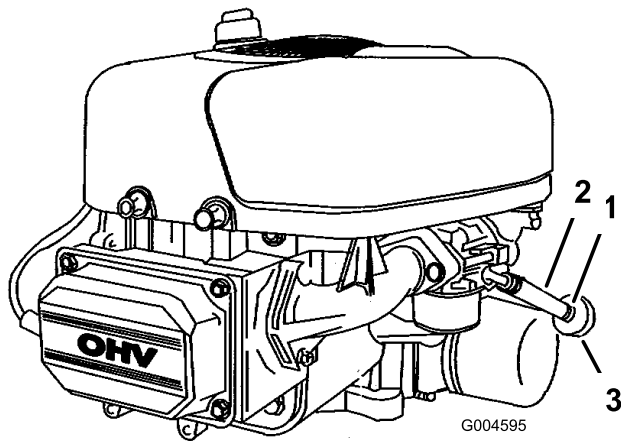

Figure 27
8. Squeeze the ends of the hose clamp together and slide it up the fuel line toward the fuel tank (Figure 27).
9. Pull the fuel line off the fuel filter (Figure 27) and allow gasoline to drain into a fuel container or a drain pan.
Replace the fuel filter after every 100 operating hours or yearly, whichever occurs first. The best time to replace the fuel filter (Figure 27) is when the fuel tank is empty. Never install a dirty fuel filter after it has been removed from the fuel line.
7. Squeeze the ends of the hose clamps together and slide them away from the old fuel filter (Figure 27).